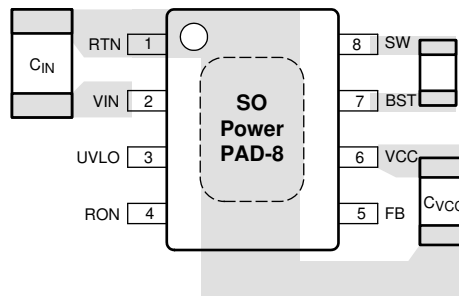

图 10-1. Placement of Bypass Capacitors
1. C_{IN} : The loop consisting of input capacitor (C_{IN}), V_{IN} pin, and RTN pin carries switching currents. Therefore, the input capacitor must be placed close to the IC, directly across V_{IN} and RTN pins, and the connections to these two pins must be direct to minimize the loop area. In general, it is not possible to accommodate all of input capacitance near the IC. A good practice is to use a 0.1- μ F or 0.47- μ F capacitor directly across the V_{IN} and RTN pins close to the IC, and the remaining bulk capacitor as close as possible (see 图 10-1).
2. C_{VCC} and C_{BST} : The V_{CC} and bootstrap (BST) bypass capacitors supply switching currents to the high and low side gate drivers. These two capacitors must also be placed as close to the IC as possible, and the connecting trace length and loop area should be minimized (see 图 10-1).